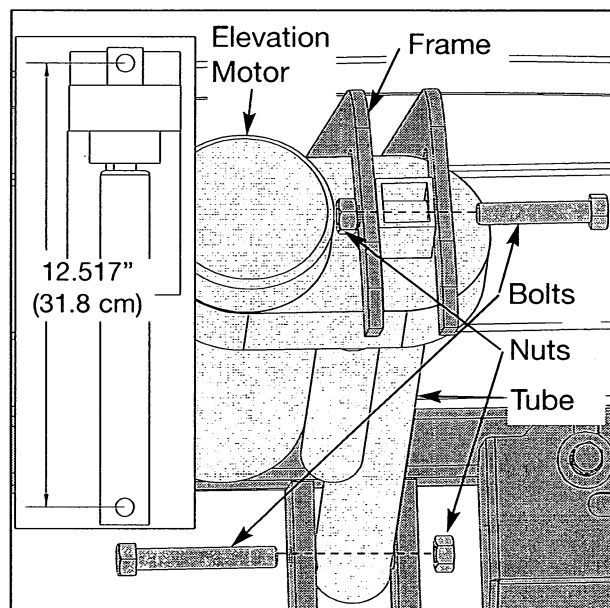

Figure 20
- B. Turn the tube with your fingers until it measures 12.517" (31.8 cm) from the center of the top hole to the center of the bottom hole. See Figure 20.
- A. Carefully place the elevation motor in position on the treadmill. See Figure 20.
- B. Slide both bolts into the slots before tightening. See Figure 20. **NOTE:** The top bolt goes from the left to the right. It doesn't matter which way the bottom bolt is positioned.